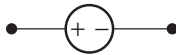

FIGURE P2.2 Image for Problem 2.2.
- 2.2 (B) Identify the device in Figure P2.2: